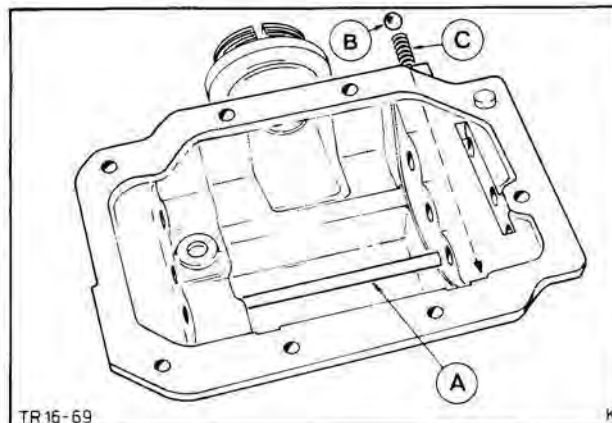

Fig. 120. Selector fork guide rod fitted
8. Refit selector fork guide rod, Fig. 120.
9. Fit reverse gear selector rail and fork, first inserting spring and ball, Fig. 120, and then pressing down until selector rail can be slid in.